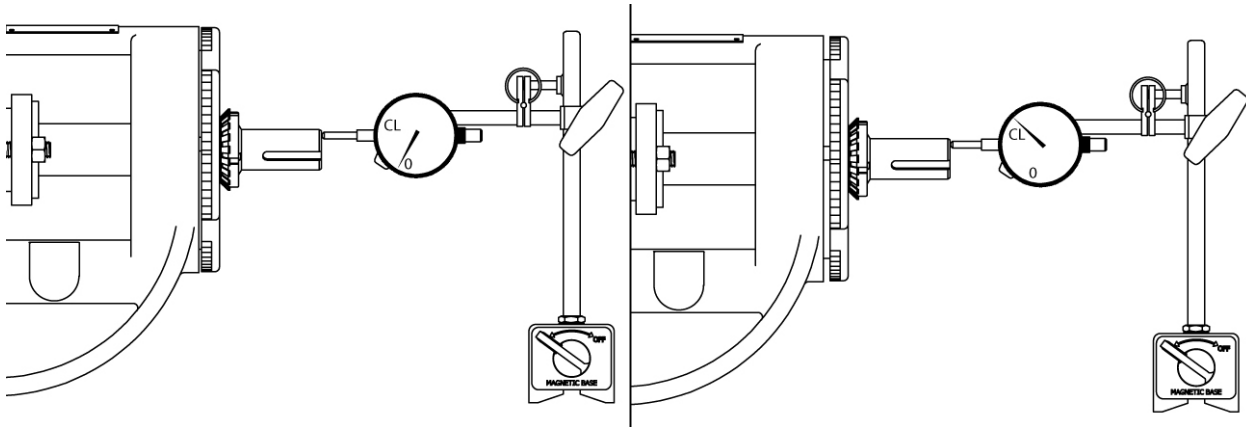

Figure 12-3: Dial Indicator Position
1. Loosen bearing housing set screws, if installed, on the flange of the bearing housing (07).
2. Rotate bearing housing (07) clockwise by hand until it can no longer be turned. Ensure rotor and shaft (36) cannot be rotated by hand.
3. Rotate bearing housing (07) counter clockwise until shaft (36) can be turned with only a slight noticeable drag. This will be the “zero” setting.
bracket (27). Position the probe on the end of the shaft as shown in Figure 12-3.
5. Refer to Table 12-2 on page 36 to determine the standard end clearances (CL) for corresponding size and material.
7. Turn the bearing housing (07) counter-clockwise, as viewed from the drive end, until the dial indicator reads the desired end clearance (CL).
8. After setting the end clearance, replace bearing housing set screws to lock bearing housing (07) in place during operation.